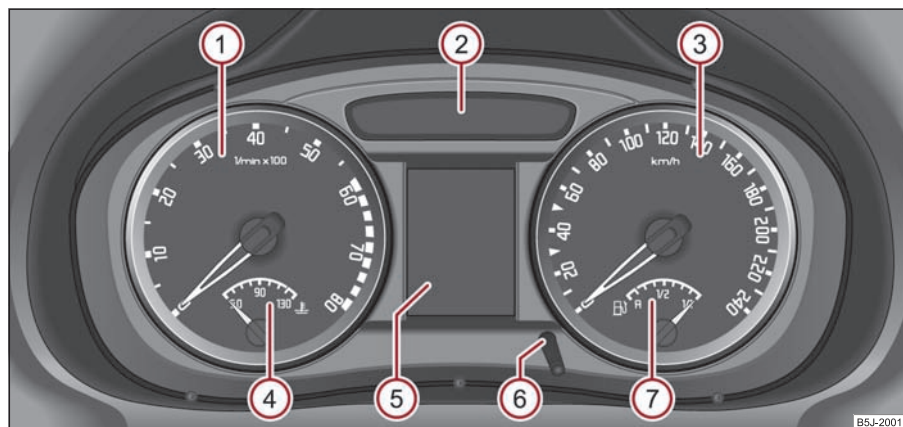

Fig. 18 Instrument cluster
The start of the red zone in the revolutions counter ① ⇒ fig. 18 indicates the maximum permissible engine speed for all gears for an engine which has been run in and operating at a normal temperature. Shift into the next higher gear or change into the selector lever position **D** of the automatic gearbox before reaching this zone.
The coolant temperature gauge (4) ⇒ page 15, fig. 18 operates only when the ignition is switched on.
The fuel gauge (7) ⇒ page 15, fig. 18 only operates when the ignition is switched on.
By briefly pressing the reset button (6) ⇒ page 15, fig. 18 you can switch over from the trip counter to the kilometer counter. In order to recognise which counter for the distance driven is shown on the display at that moment, **trip** appears on the trip counter above the information of the driven route ⇒ fig. 19.
A reset button is installed on the left below beside the speedometer for adjusting the clock ⇒ page 15, fig. 18.